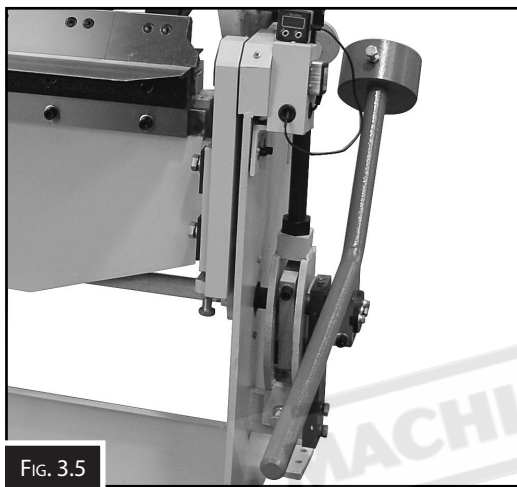

FIG. 3.5
1. With the help of a mechanical hoist lift the clamping handles up and fit it to the machine and clamp with the bolts supplied. (Fig. 3.5)